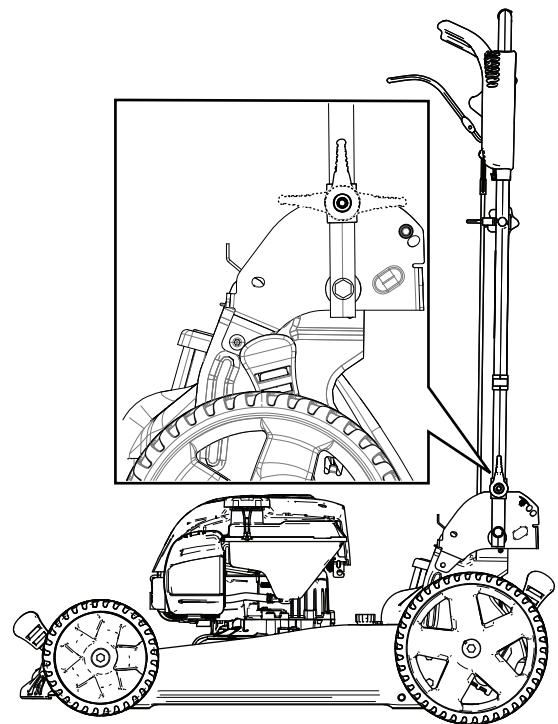

Figure 25
2. Fold the handle forward either to the vertical position or the fully forward position as shown in Figure 25.